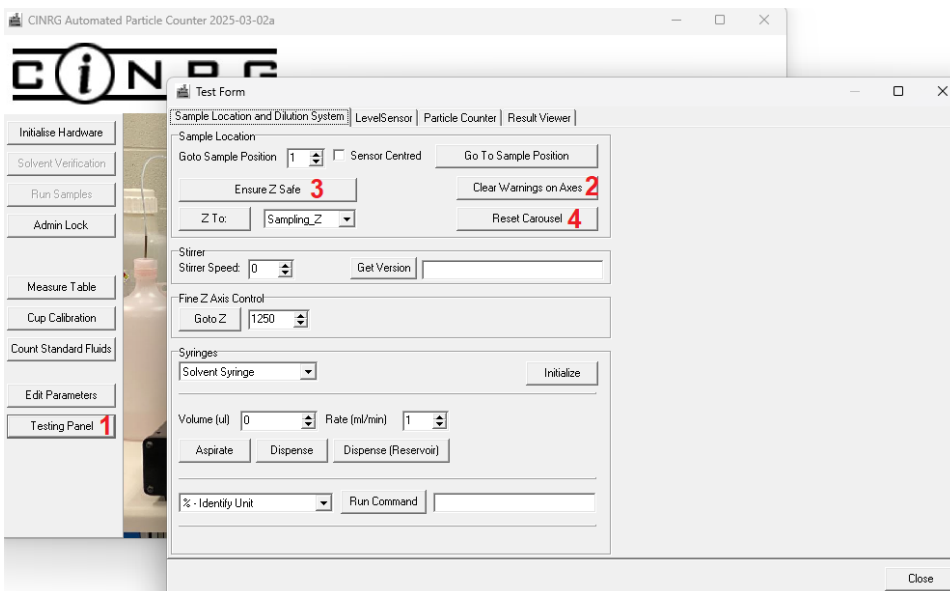

Figure 2 – The Sample Location and Dilution System tab of the Testing Panel dialog.
1. Click on the [Testing Panel] button from the admin menu (labelled “1” in Figure 2).
2. Click on the [Clear Warnings on Axes] button (labelled “2” in Figure 2).
3. Click on the [Ensure Z Safe] button (labelled “3” in Figure 2).
4. Click on the [Reset Carousel] button (labelled “4” in Figure 2).